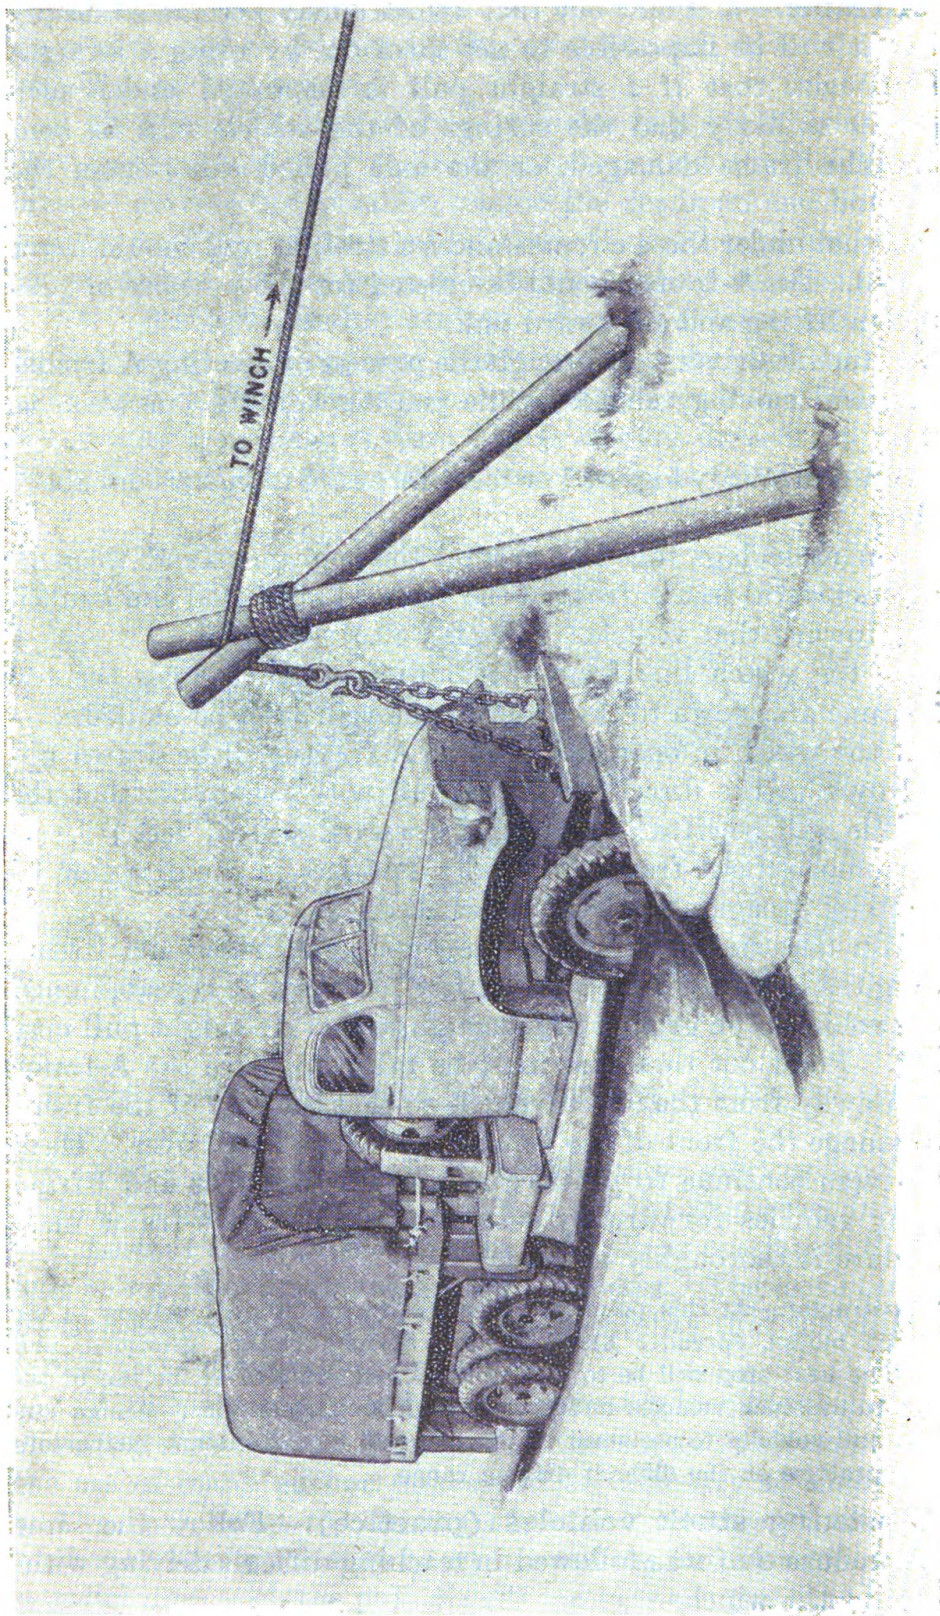

Figure 39.—A-frame.
(1) Select two sturdy logs of 7 or more inches in diameter and about 12 feet long.
(2) Chain these logs together around the top and stand them in shallow holes several feet in front of the vehicle to be lifted and hauled, and tilting toward that vehicle. (See fig. 39.)
(3) Pass the winch line from the hauling vehicle across the top of the A-frame and down to the front of the vehicle to be hauled.
(4) Put the winch in operation. (The A-frame will be drawn upright and over in the direction of the pull with the result that the mired vehicle will be lifted and hauled forward several feet.)
(5) Now move the A-frame forward a few feet in the direction of the pull and set up again as already described.